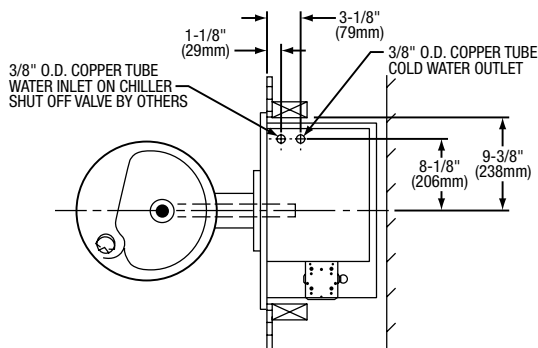

FIG. 1
NOTE: Building construction must allow for adequate air flow on both sides and top of remote chiller unit. Minimum of 4" (102mm) is required. (See Figures 1 & 2)
3. Install plumbing and electrical rough-ins. See Figure 1 for location of the supply water inlet to chiller and for the location of the waste water outlet. A junction box for a (3) wire, 10 amp branch circuit is provided on the inside of the chiller. (Standard 120 Volts, 60 Hz and single phase) See Figure 2 for the electrical inlet location.